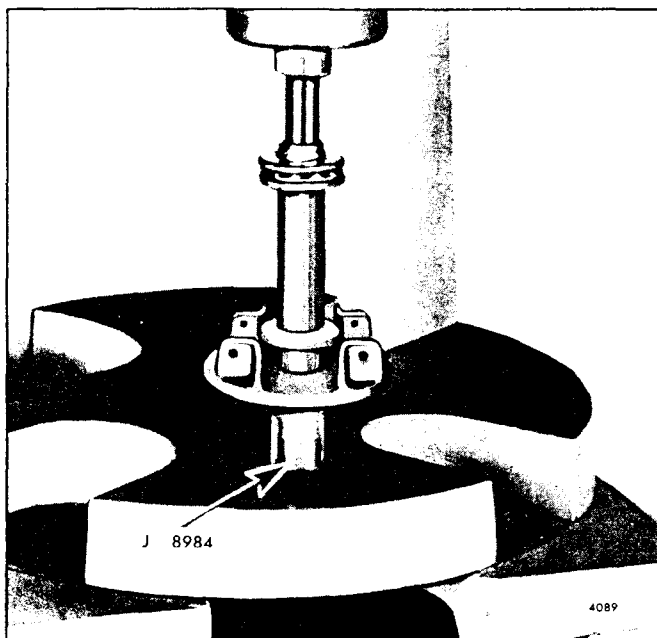

Fig. 17 - Installing Weight Carrier on Shaft
2. Press the shaft into the weight carrier, using tool J 8984 as illustrated in Fig. 17. The tool will properly position the weight carrier on the shaft. However, if a four-weight assembly is used, press the shaft in until it extends .555" to .559" from the weight carrier.